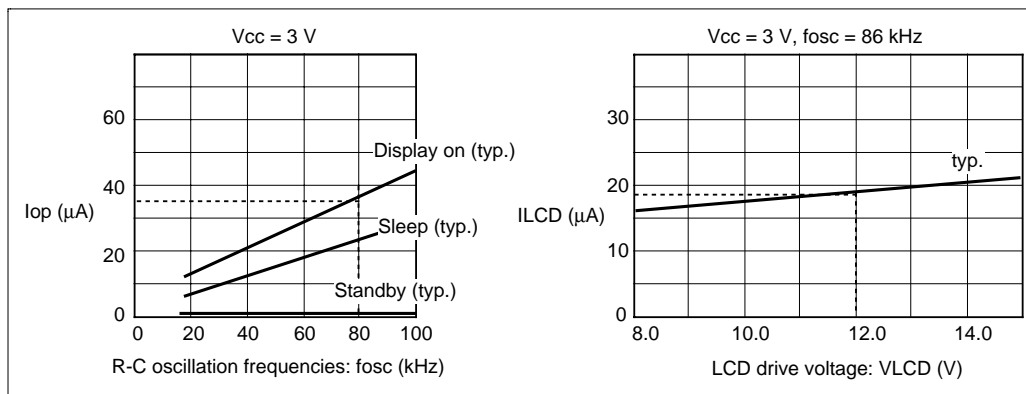

Figure 42 Relationship between the Operation Frequency and Current Consumption
8. The following shows the relationship between the operation frequency (fosc) and current consumption (Icc) (figure 42).